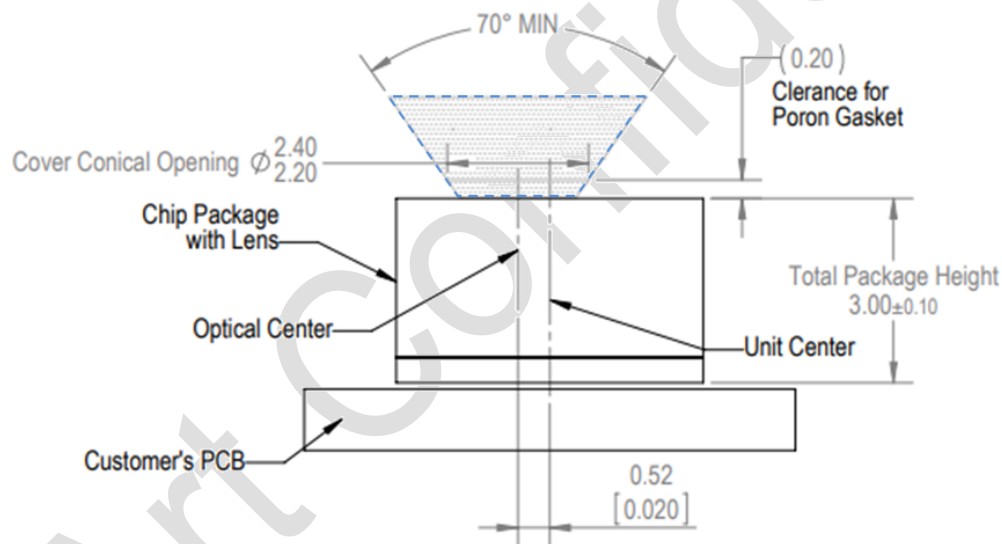

Figure 1. Chip Package's Side View
- There must not be any obstruction in the keep clear zone as highlighted in blue in Figure 1.